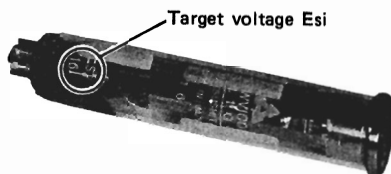

Fig. 3
2. Before inserting the Newvicon, note the value of target voltage Esj stamped on the Newvicon neck (Fig. 3). The value of Esj will be used for the target voltage adjustment.